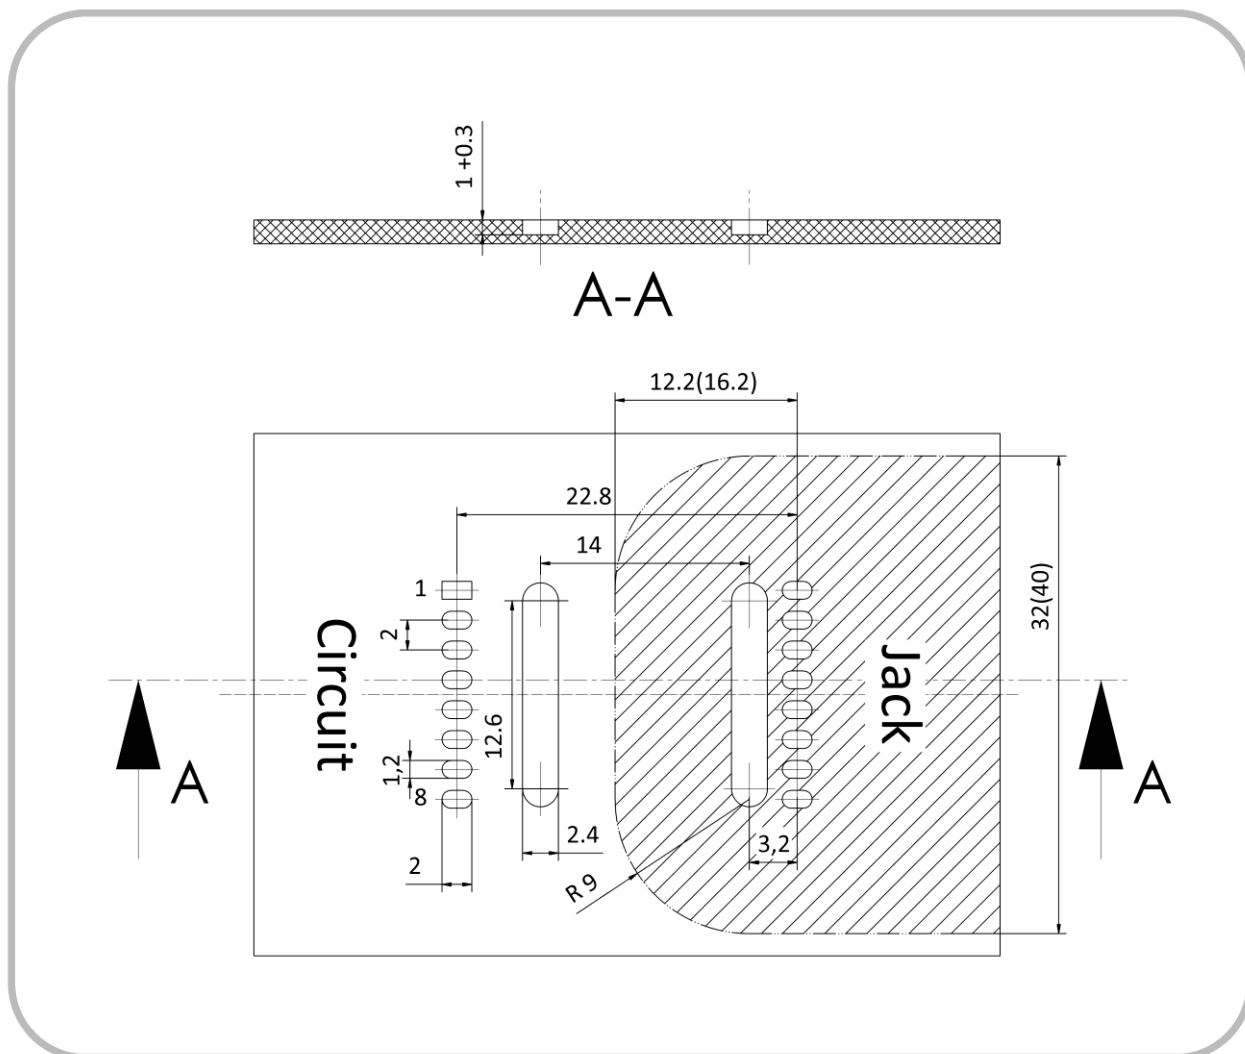

Figure 9. Suggested PCB layout for the EN-100S.
Z-milling to a depth of 1 +0.3 mm is required in the rounded rectangular areas as shown in Figure 9, to accommodate the EN-100S.
The dimensions of the hatched area are based upon requirements for realising two means of patient protection (MOPP) for medical electrical (ME) devices. For such ME applications, those with operating voltages of up to 250 V AC require the dimensions indicated in Figure 9 to be met or exceeded, and those with operating voltages of up to 400 V AC require the dimensions indicated in parentheses in Figure 9 to be met or exceeded.